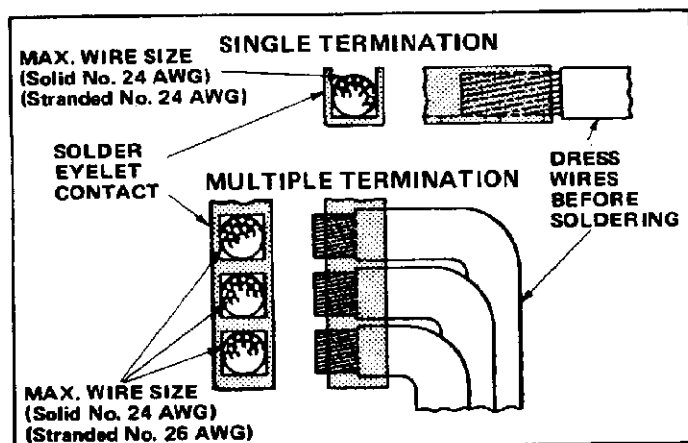

Fig. 4
These assemblies are designed to be rack or panel mounted. Each eyelet contact will accept single or multiple wire terminations. For single terminations, wire is placed in contact channel and soldered. For multiple terminations, each wire is placed in a separate eyelet and soldered (see Figure 4).
3. Dress wires in proper direction. This will prevent bending of contacts after they are soldered. See Figure 4.